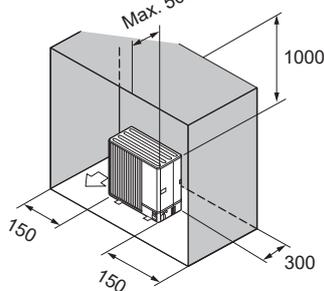

Fig. 1-11
- (6) Obstructions or closed surfaces at rear, sides, and above only (Fig. 1-11)